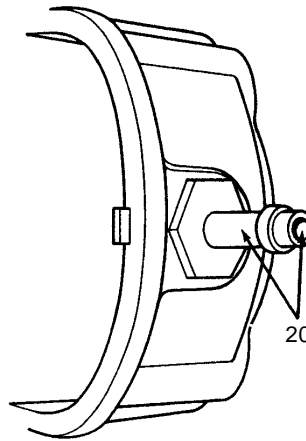

Figure 11
- (15) Inlet Nozzle (20) - Check and clean inlet nozzle M3180 to insure it is clean and free of obstruction. See Figure 11. Reference paragraphs 3.B and C of this bulletin. Yellow or white particles or an oily film in the inlet nozzle indicates moisture contamination and possible lack of pressurization. Reference the engine and/or airframe manufacturer's literature for pressurization system corrective action.